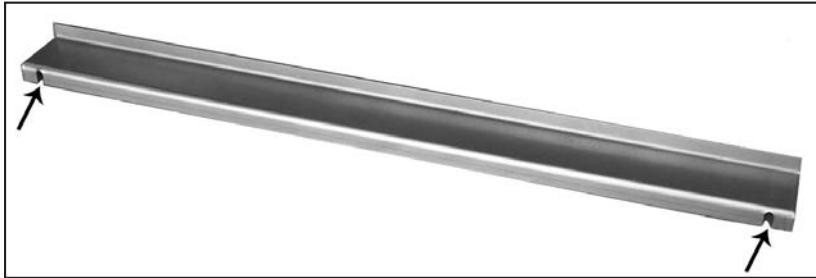

Figure 60: Brick panel bracket, slots shown.
1. Remove the two (2) screws from the rear of the baffle, use a  $\frac{1}{4}$ " socket or a flat head screwdriver. Place the provided brick bracket (Figure 60) at the rear of the baffle with the slots over the screw holes (see Figure 60). Insert two (2) of the provided screws into the two (2) holes along the bottom of the baffle.